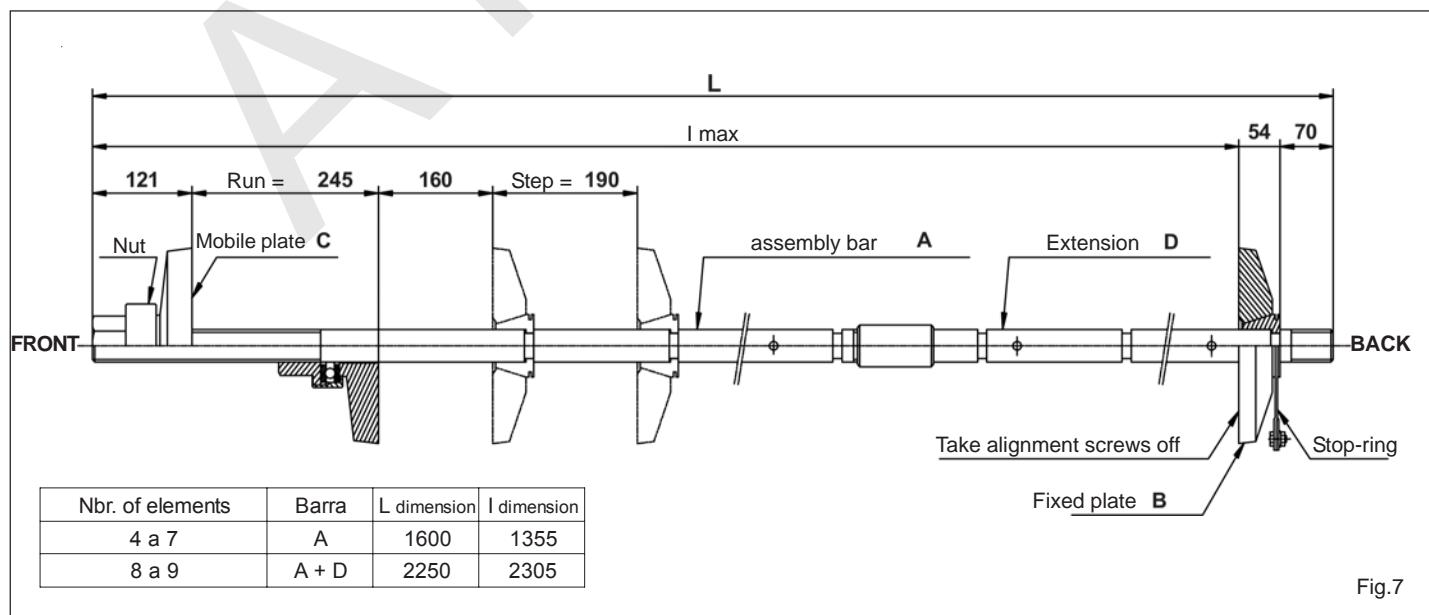

Fig.7
To tighten the sections, a set of assembly bars is necessary (fig. 7). It comprises:
- 1.- Withdraw the plate's alignment screws (fixed and mobile, **B** and **C**) (fig. 7).
- 2.- Place an assembly bar (**A**) in each row of nipples. The larger thread goes at the front **AV** and this thread, together with the locknut will remain at the height of the section we wish to tighten (fig. 7, distance 121 to mobile plate **C**).
- 5.- Before tightening, **align the plates**. To align the bars, place two locating screws (fig. 7) on the interior side of the fixed plates. These fixed plates have different alignment settings (choose those that suit each hole best).